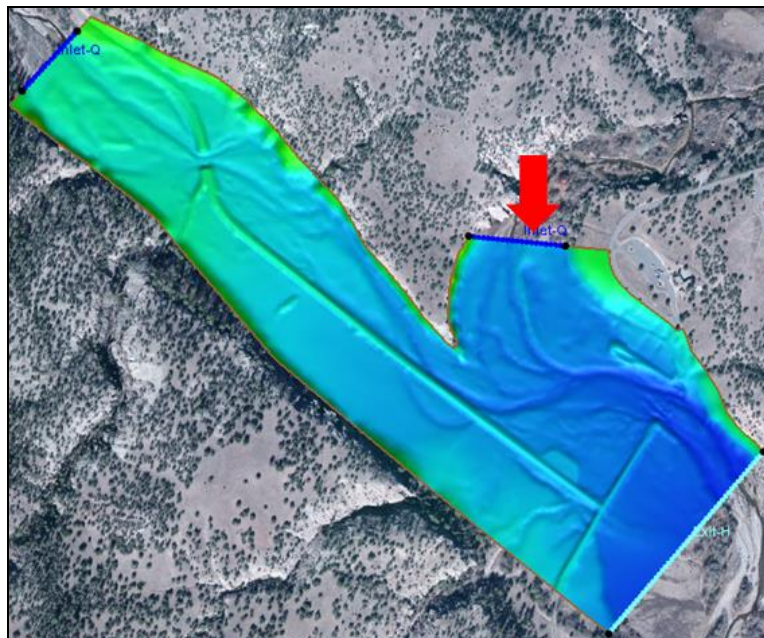

Figure 2 Inflow boundary condition
3. Use the **Select Feature Arc**  tool and double-click on the Inlet-Q inflow boundary shown in Figure 2. This will open the *SRH-2D Linear BC* dialog.